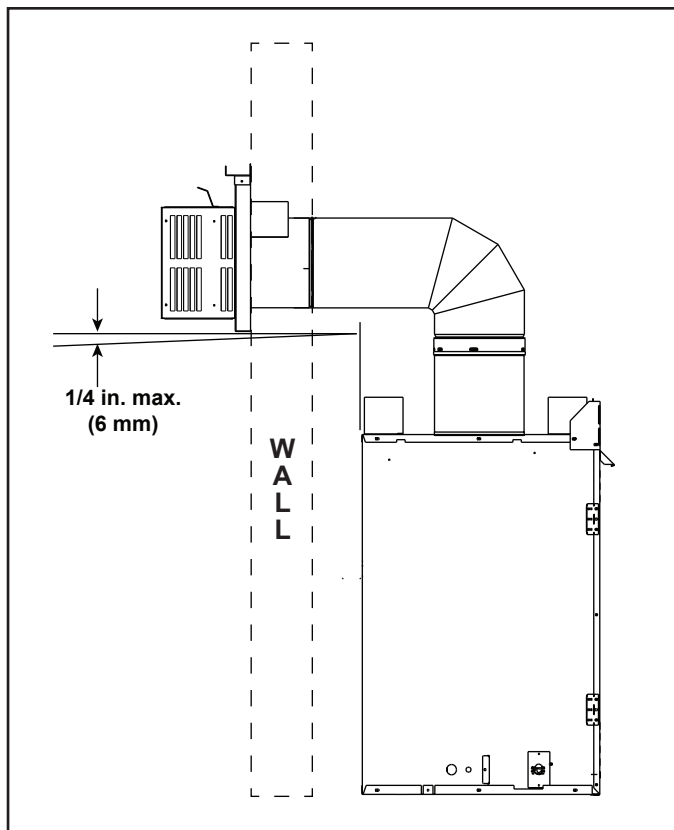

Figure 4.8
- Horizontal termination cap should have a 1/4 inch downward slant to allow any moisture in cap to be released. See Figure 4.8.